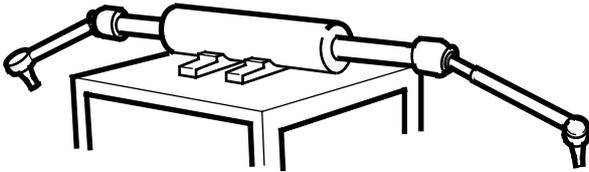

Fig 61.
- 1 Fix the assembly on a locally made strip and rebuild bench as shown in Fig 61. (H-58).